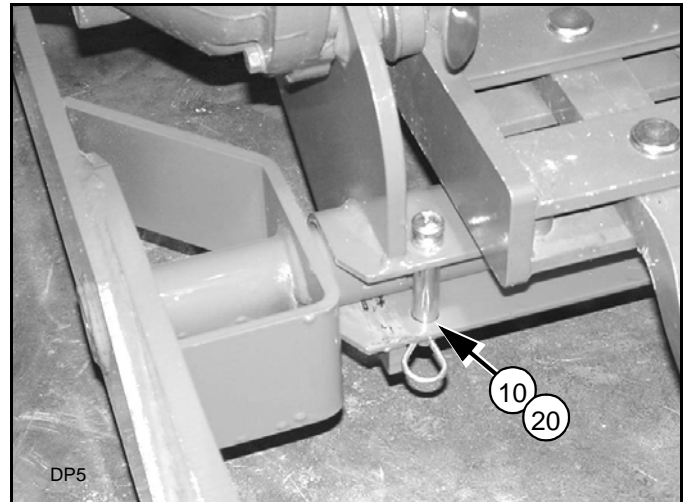

Figure 9 Sub-Frame Fit-Up (Typical)
2. Insert cross tube of sub-frame into channel of rear mount bracket (2) as shown in Figure 9.